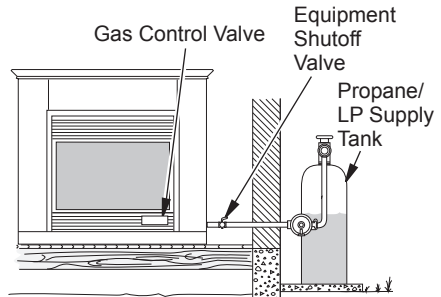

Figure 18 - Checking Gas Joints (Propane/LP Only)
pane/LP supply to equipment shutoff valve for propane/LP (see Figures 18 or 19). Apply noncorrosive leak detection fluid to all joints. Bubbles forming show a leak.
4. Check all joints from equipment shutoff valve to control valve (see Figures 18 or 19). Apply noncorrosive leak detection fluid to all joints. Bubbles forming show a leak.